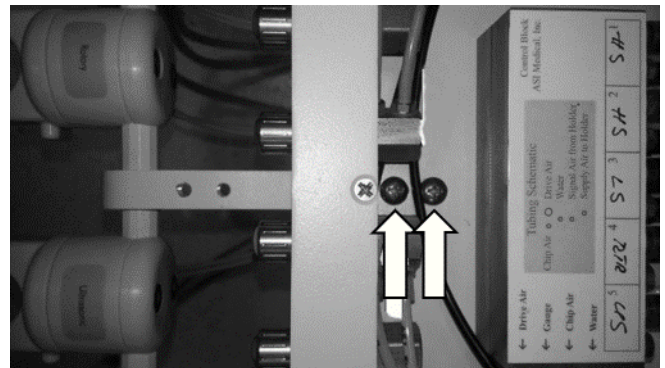

Fig. 3
- 5 Attach bar using two (2) 10x32" round head screws through drilled holes. (Fig. 3)